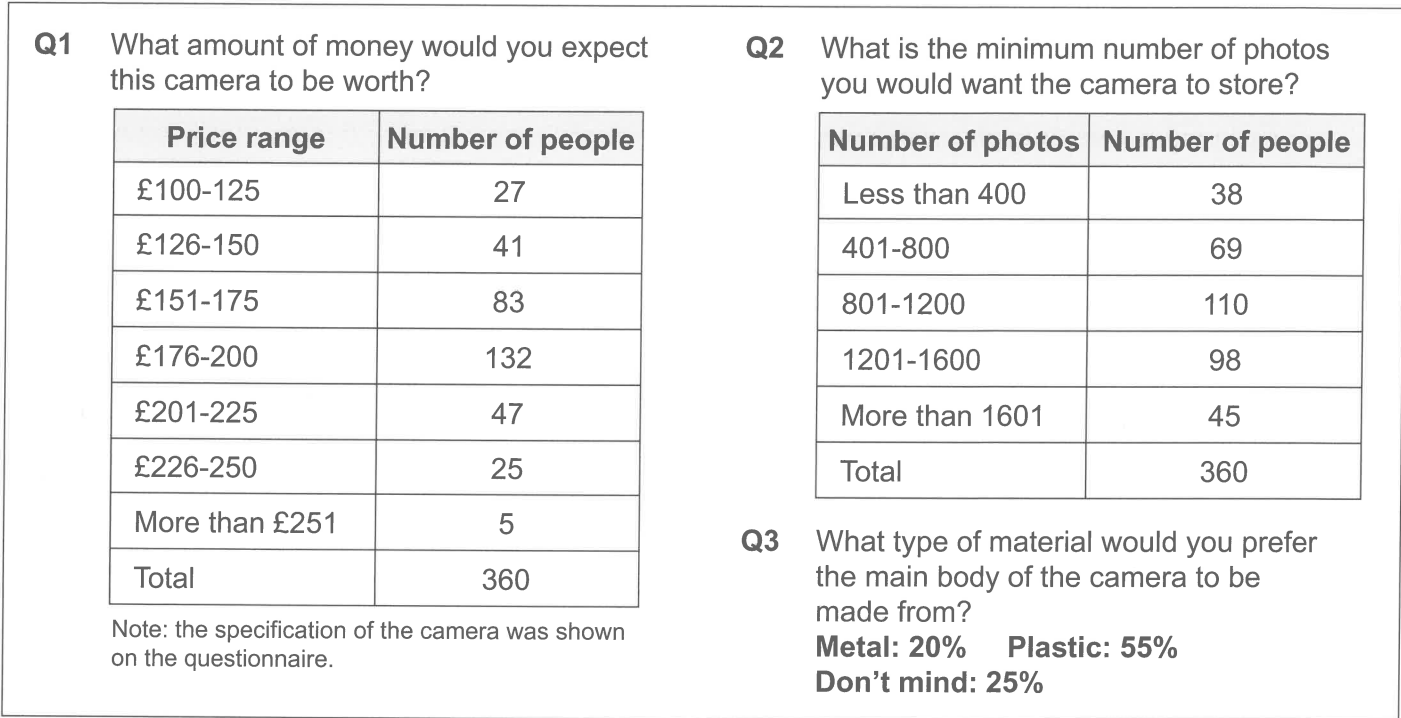

Figure 7
23 Market research was carried out on the new camera design mentioned in **Question 21**, to find out the likes and dislikes of some potential users. The research was carried out using questionnaires given to a group of 360 elderly people. The results of the market research are shown in **Figure 7**.
23.1 Using the results of **Q3** shown in **Figure 7**, calculate the number of people who answered 'metal' and the number of people who answered 'plastic'.
23.2 Using the results of **Q1** in **Figure 7**, calculate the percentage of people who said they would expect to pay £200 or less for the camera. Give your answer to **1 decimal place**.
23.3 Describe how the results of the market research shown in **Figure 7** should affect the design of the camera. Discuss the results of each question and use data to support your answers.